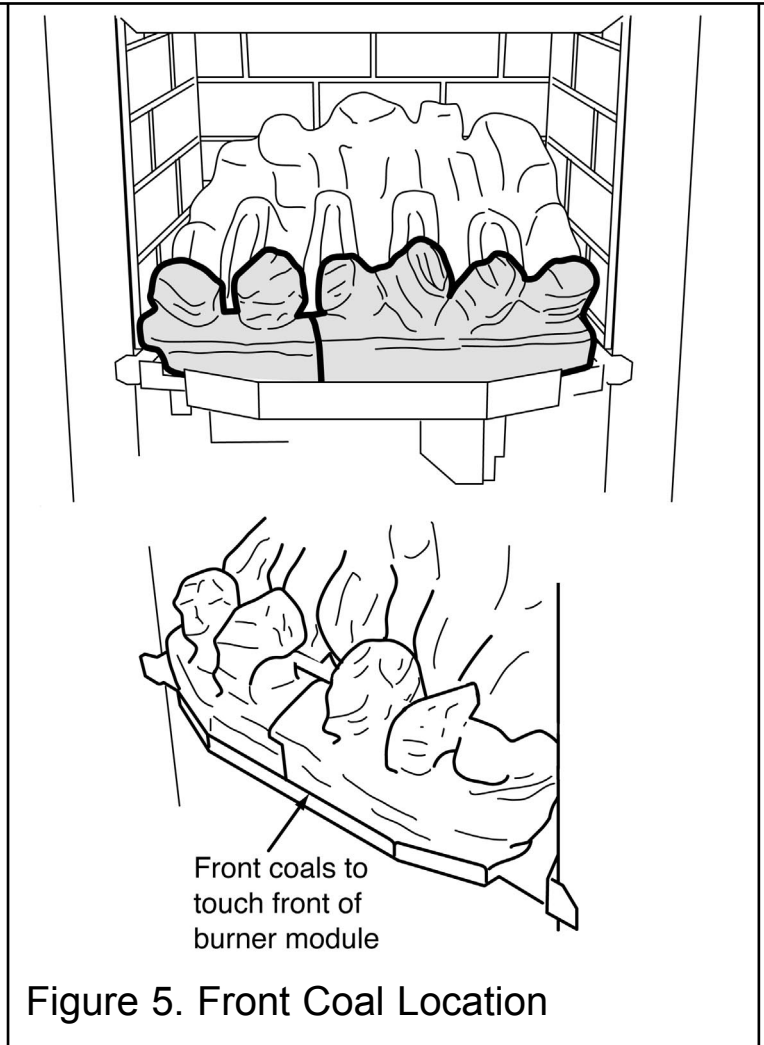

Figure 5. Front Coal Location
2. Place the left-hand ceramic front coal in position in front of the base coal. The front of the ceramic coal should touch the front of the burner module (See figure 5).
3. Place the right hand ceramic front coal in position in front of the base coal. This should overlap the left-hand coal. Push the two sides together to minimise the gap. The front of the ceramic coal should touch the front of the burner module (See figure 5).